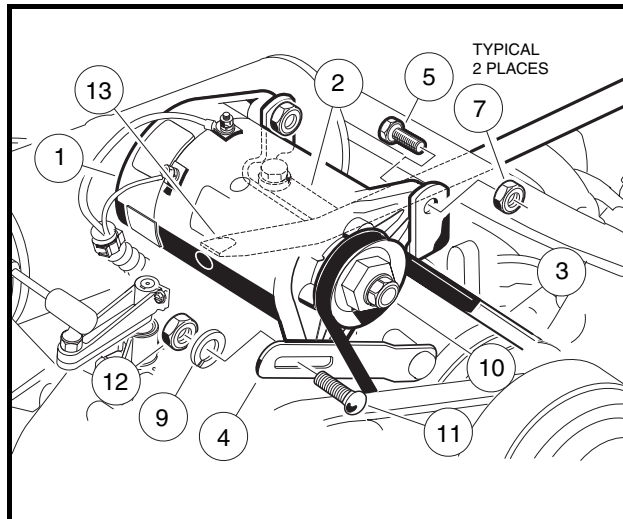
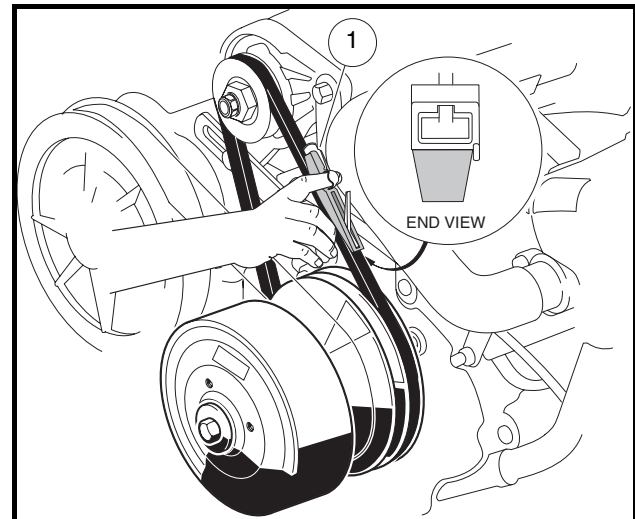

Figure 12-13 Starter/Generator Assembly
Figure 12-14 Belt Tension Gauge
2. Install two 3/8-inch hex-head pivot bolts (5) into the mounting bracket with the heads of the bolts facing towards the driver side of the vehicle. Position the starter/generator in the mounting bracket so that the bolts will go through the starter/generator before going through the bracket. Install a locknut (7) onto each bolt and tighten to finger-tight (**Figure 12-13, Page 12-10**).
3. Install the adjustment bolt (11) through the adjusting bracket (4) and then through the starter/generator. Install a lockwasher (9) and 5/16-inch nut (12) onto the end of the adjustment bolt (11) and tighten to finger-tight (**Figure 12-13, Page 12-10**).
4. Install the belt (3), then tighten the mounting bolts. **See Belt Tension Adjustment on page 12-10.**
3. Make sure the two pivot bolts (5) on the mounting bracket, carriage bolt (11) and hex nut (12) are finger-tight (**Figure 12-13, Page 12-10**).
4. Push the starter/generator down to its lowest point of adjustment travel. With the starter/generator belt in place around the drive clutch pulley, install the starter/generator belt (3).
5. Place a pry bar (13) between the top of the starter/generator mounting bracket (2) and the underside of the starter/generator, by passing the pry bar under the exhaust header.
6. Hold the pry bar and measure the belt tension using a Krikit[®] gauge (1) (available at NAPA[®] Auto Parts stores), or equivalent. Proper tension for a new starter/generator belt should be 75 ft-lb (101.7 N·m), or 45 ft-lb (61 N·m) for an existing belt (**Figure 12-14, Page 12-10**).
7. While maintaining the tension, tighten the adjustment nut (12) to 12 ft-lb (16.3 N·m). Tighten the two pivot bolts (5) and hex nuts (7) to 23 ft-lb (31.2 N·m) (**Figure 12-13, Page 12-10**). **See following CAUTION.**